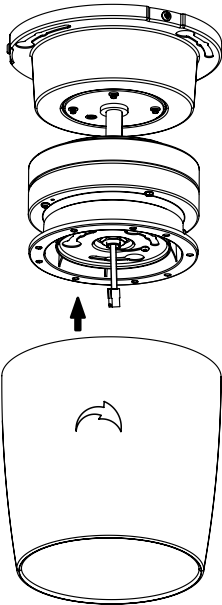

Fig. 12a
**Step 1.** Place motor housing up to the mounting plate cover, attach three hang tags with screws on the motor housing to the key holes on the mounting plate cover. (Fig. 12a)